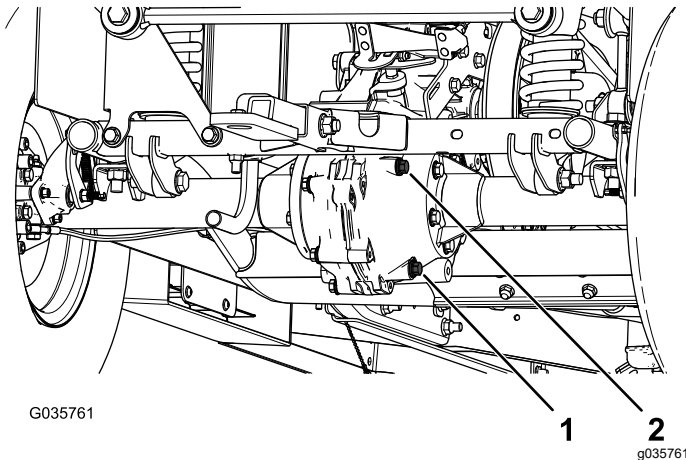

Figure 58
4. Remove the fill plug on the transaxle (Figure 58).
5. If the fluid level is low, remove the fill plug and add the specified fluid until it runs out of the hole (Figure 58).
1. Align a drain pan under the drain plug (Figure 58).
2. Remove the fill plug and the seal (Figure 58).
3. Remove the drain plug and the seal, and allow the fluid to drain completely (Figure 58).